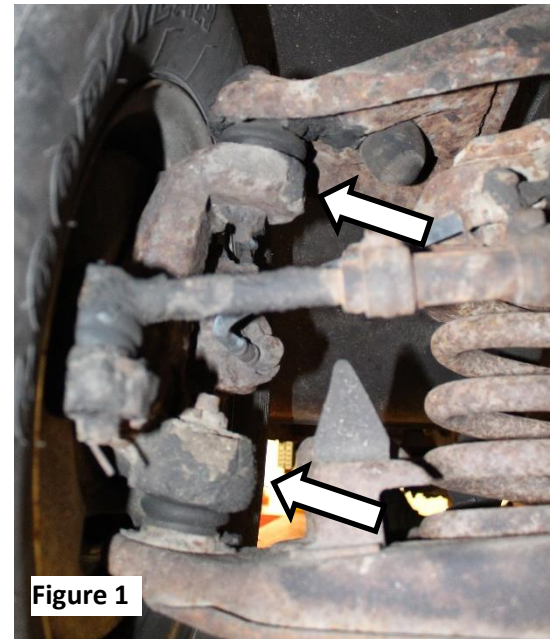

Figure 1
6. Strike the flat surface on the spindle near the ball joint with a hammer to separate the ball joints from the spindle. A ball joint separating tool (pickle fork) may be required. See **Figure 1**.